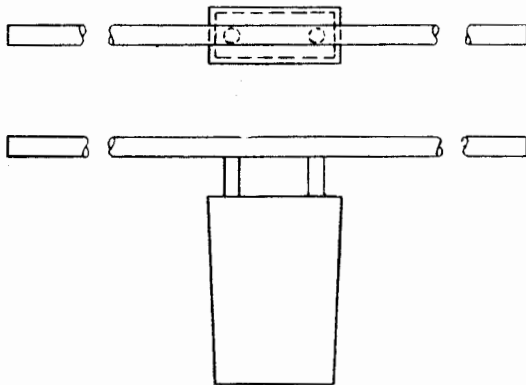

Figure 11-31. Waveguide Mandrel
(5) Silver solder the gas escape vents in the wide sides of the coupling flange.
(6) Remove all traces of flux by flushing the end in boiling hot water.
(7) Tap the mandrel shown in Figure 11-31 into the guide. This will push the guide against the coupling at all points.